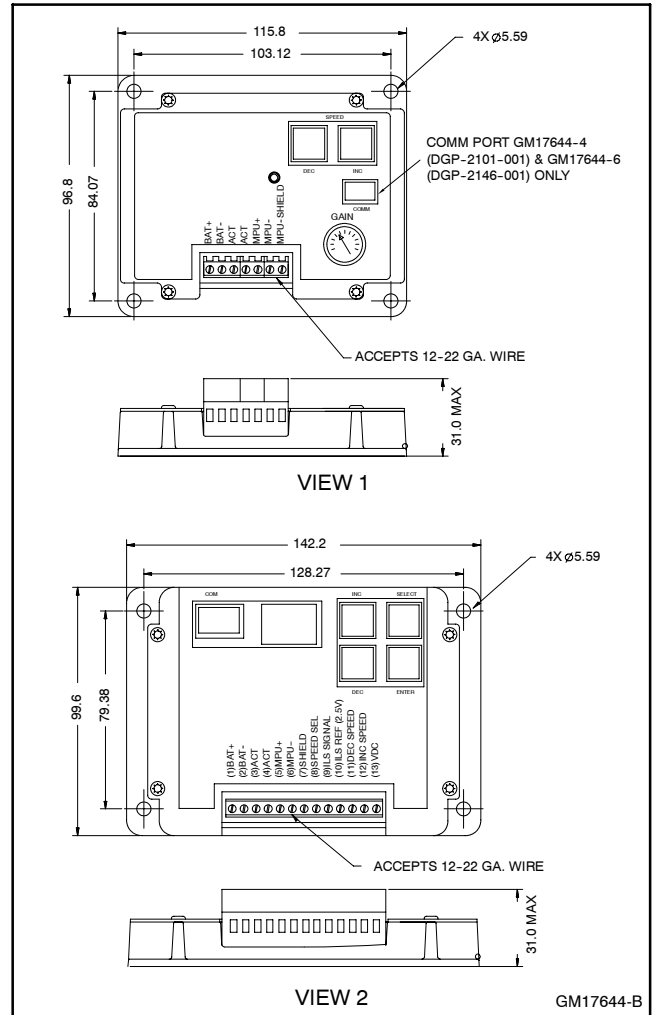

Figure 2 Governor Controller Dimensions
- 3.5 Select a location for mounting the governor controller using at least one of the original junction box holes. See Figure 2 for governor controller mounting and overall dimensions. When selecting the mounting location, the engine wiring harness leads must be within reach of the governor controller terminals.